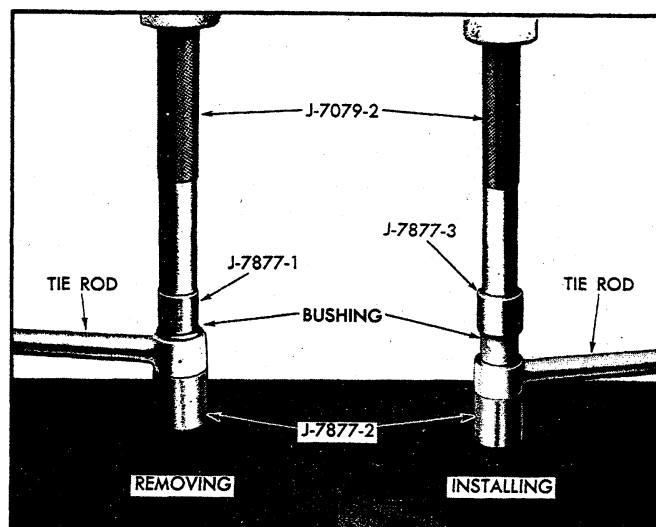

Fig. 45—Tie Rod Bushing Replacement (Chevrolet)
1. With tie rod bushing centered over Tool J-7877-2 and with tie rod supported horizontally, press or drive bushing from rod, using Tools J-7877-1 and J-7079-2 as shown in Figure 45.
2. With tie rod centered over Tool J-7877-2 and rod supported horizontally, press or drive bushing into arm using Tools J-7877-3 and J-7079-2 as shown in Figure 45. Tool J-7877-3 should bottom on tie rod when bushing is fully installed.